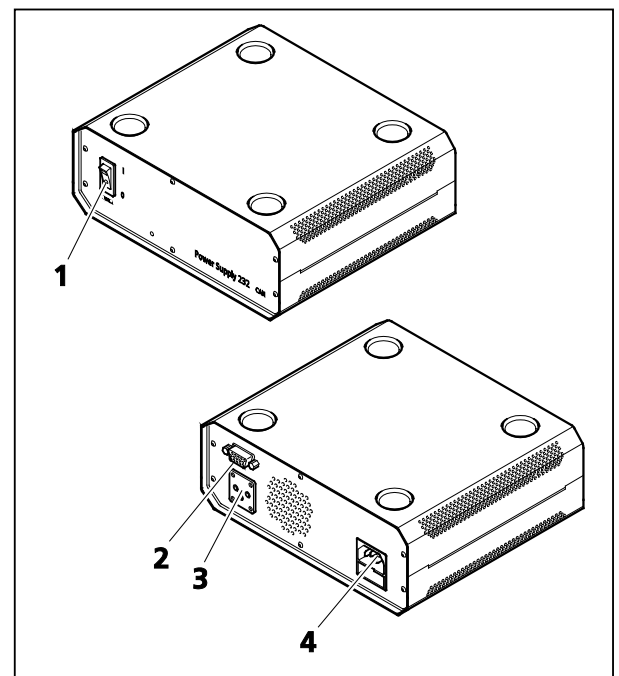

Fig. 45 Power supply 232 CAN for HAL 100 in reflected light mode
- For reflected light, connect the three-pin plug of the HAL 100 to the socket (Fig. 45/3) on the back of power supply 232 CAN.
- Use a CAN connection cable to connect the CAN connector on the power supply (Fig. 45/2) with a free CAN connector on the back of the stand.
- Use a power cord to connect the power connector (Fig. 45/4) to a power outlet.
- For reflected light, use the ON / OFF switch (Fig. 45/1) on the power supply to turn the HAL 100 on or off, as required.